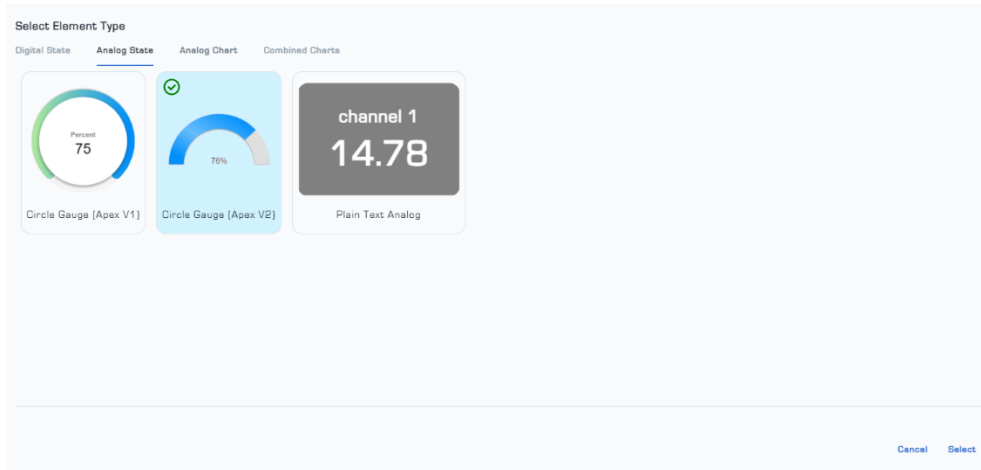

Figure 26: Graph or gauge creation page
- (3) Select your desired chart or gauge and click on the 'Select' option to display the real-time data from the selected channel (in both the graph or gauge). Examples of these charts are shown in Figure 261.